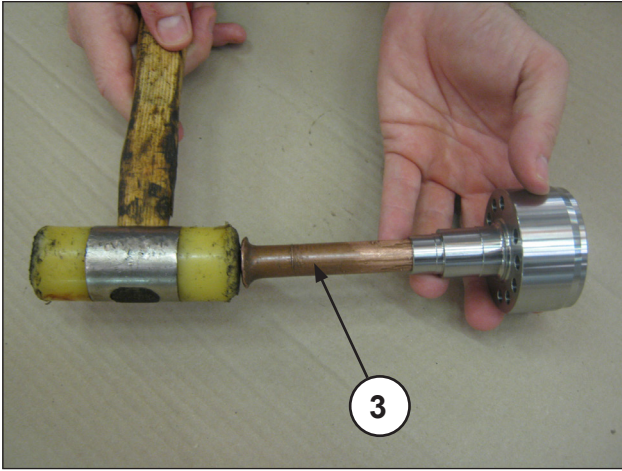
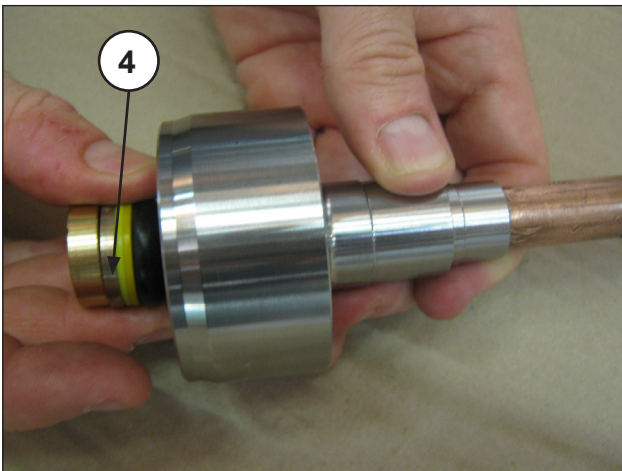

Fig. 34
Fig. 35
- With separate HP seals support and a special pin (pos. ③ Fig. 34) make the H.P. pack come out. (high pressure) (pos. ④ Fig. 35), finally extract the head ring (Fig. 36).
At each disassembly, the HP packing (Fig. 35, pos. ④) must be replaced.